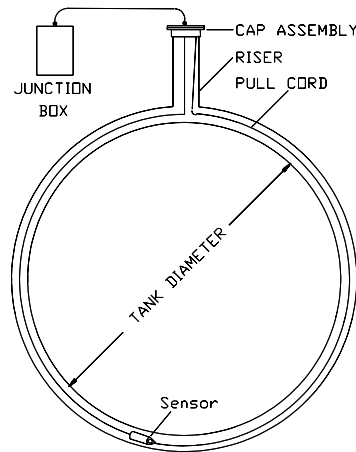

Figure 9: Basic Interstitial Sensor Installation in a FIBERGLASS Tank
1. See *Figure 9*. Determine tank inside diameter (TD).
2. Measure the riser height (RH) from top of tank to cap assembly.
3. Multiply the tank diameter (TD) x 1.4 and add the riser height (RH).